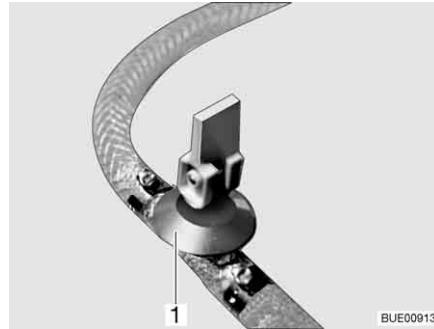
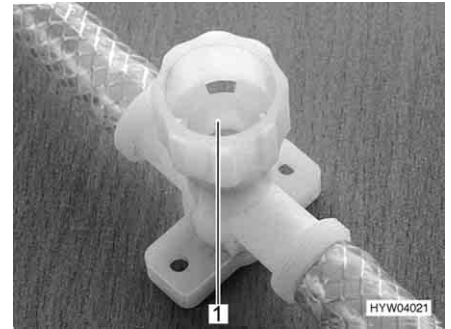

Fig. 238 Drain cock (with rocking lever)
Fig. 239 Drain cock (with twist cap)
- Open all drain cocks. To do this, position the drain cock's rocking lever (Fig. 238,1) vertically or turn the drain cock's cap (Fig. 239,1) in an anti-clockwise direction.